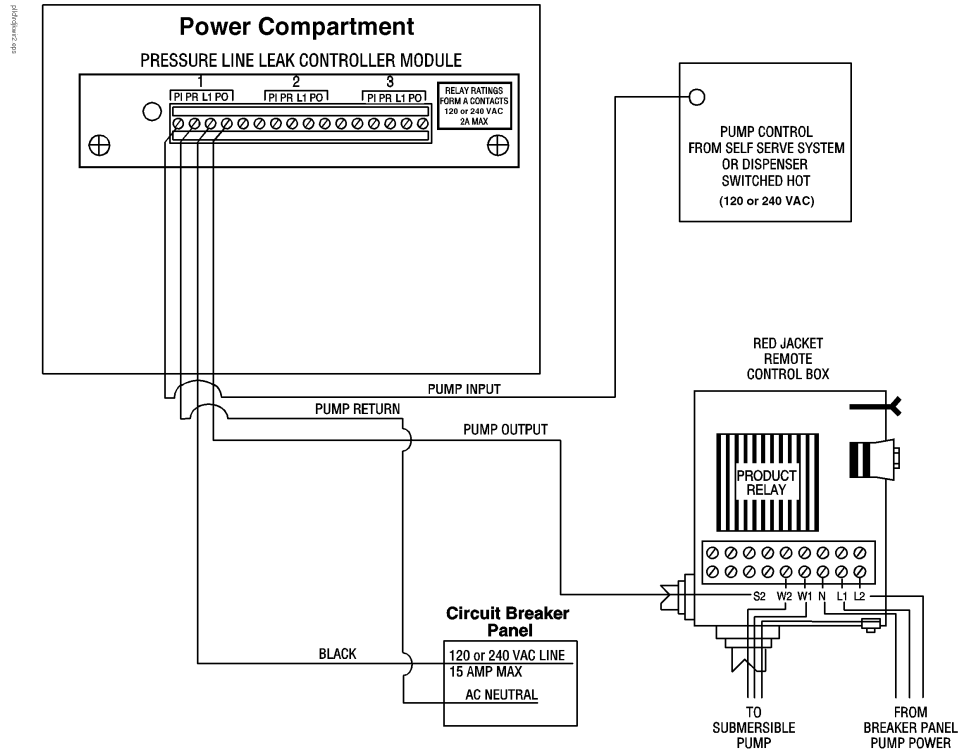
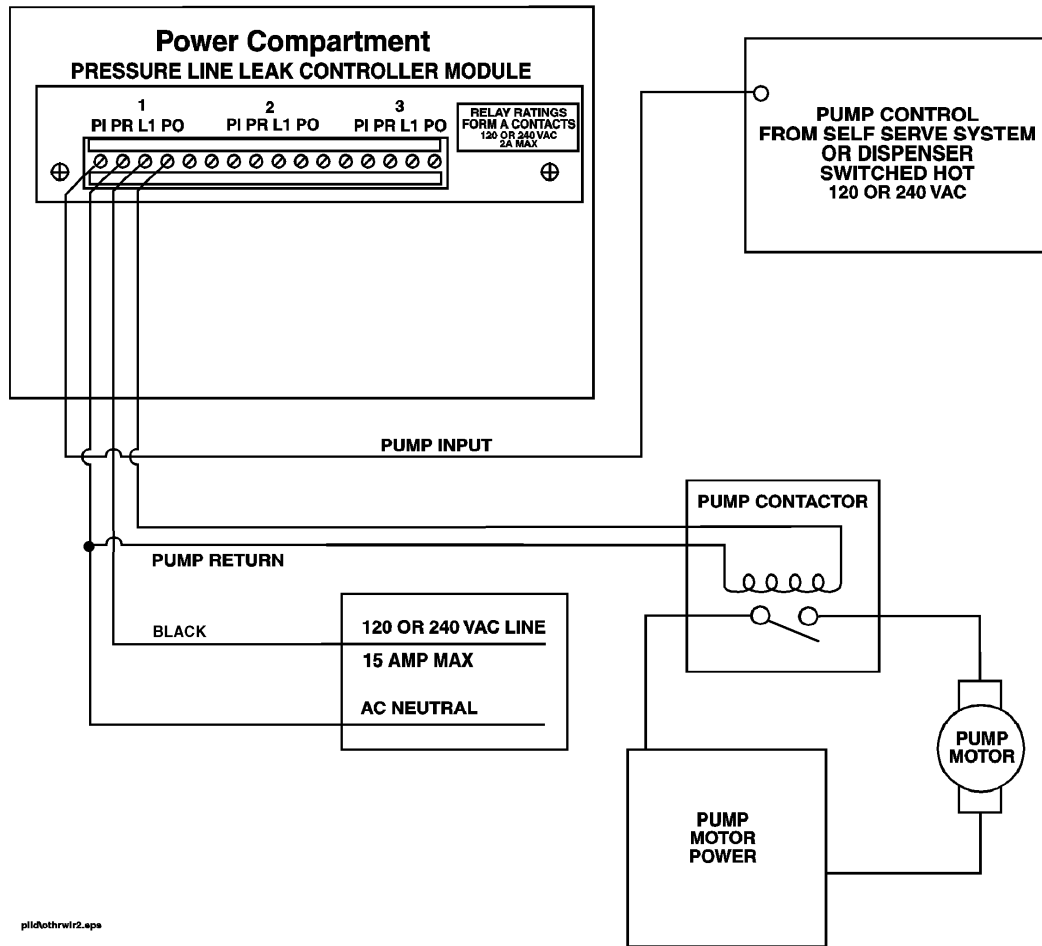

Figure 4. Pressure Line Leak Controller Module Wiring Diagram for Red Jacket Relay Control Box
Figure 5. Pressure Line Leak Controller Module Wiring Diagram for Non-Red Jacket Relay Control Box
5. Connect the three (3) color-coded or marked wires from the pump controls (STP relay control box) and the one (1) wire from the main breaker panel to the proper terminals on the Pressurized Line Leak Controller Module connector (see Figure 4 on page 10; Pressurized Line Leak Controller Module Wiring Diagram for Red Jack Relay Control Box, or Figure 5 on page 11; Pressurized Line Leak Controller Module Wiring Diagram for Non-Red Jacket Relay Control Box).